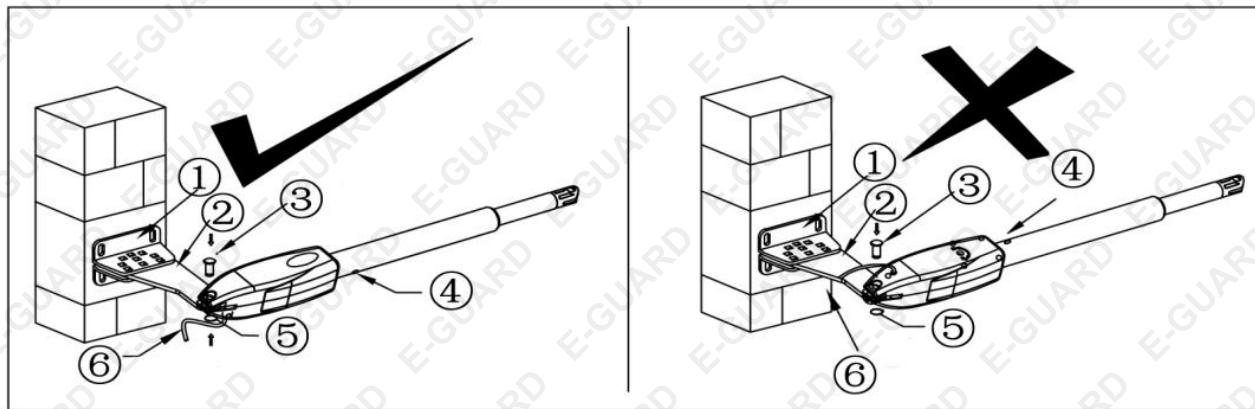

Figure 8
### Figure 8 left, power cable and manual override release placed correctly
### Figure 8 right, power cable and manual override release placed incorrectly
**Note on Incorrect Installation, Figure 8, right:** Cable must not be installed above the motor arm. It may pinch and strip the cable and causes electric shock. Also, the manual override release must be located face to the ground. Follow correct installation as shown in Figure 8 left.